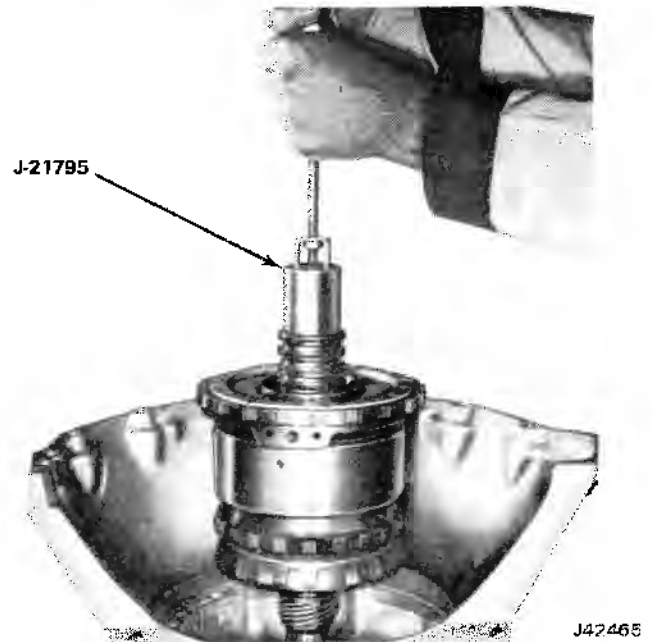

Fig. 7-35 Removing Center Support and Gear Unit
(2) Remove entire gear unit assembly from transmission case by lifting with Gear Assembly Installing and Removing Tool J-21796, with Slide Hammer C-9752 (fig. 7-35).
(3) Remove output shaft-to-case thrust washer from rear of output shaft or inside case.